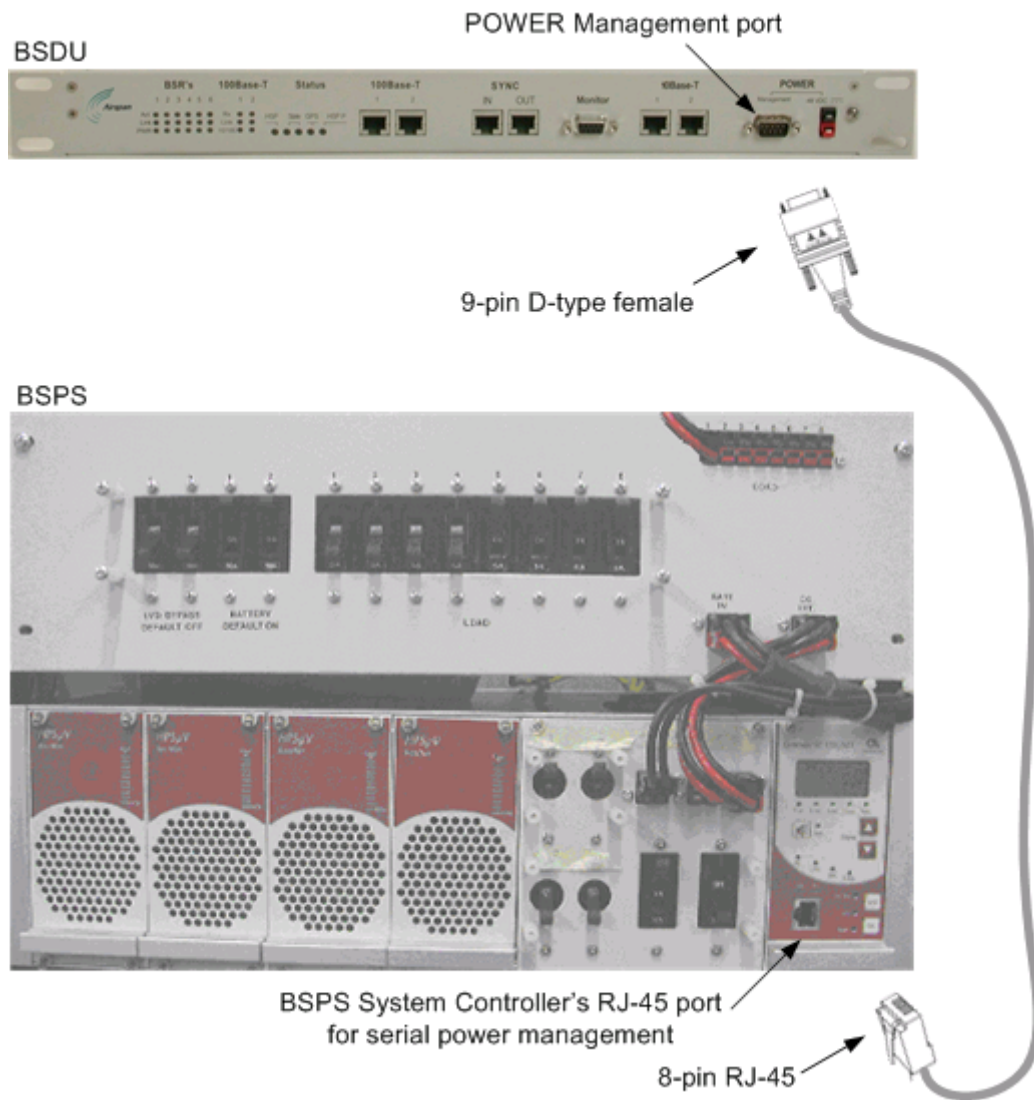

Figure 5-7: BSDU-to-BSPS serial cable connections for BPS power management
1. Connect the **9-pin D-type female** connector, at one end of the cable, to the BSDU's 9-pin D-type port labeled **POWER Management** (see Figure 5-7).
2. Connect the **RJ-45** connector, at the other end of the cable, to the BSPS System Controller's RJ-45 serial port (see Figure 5-7).